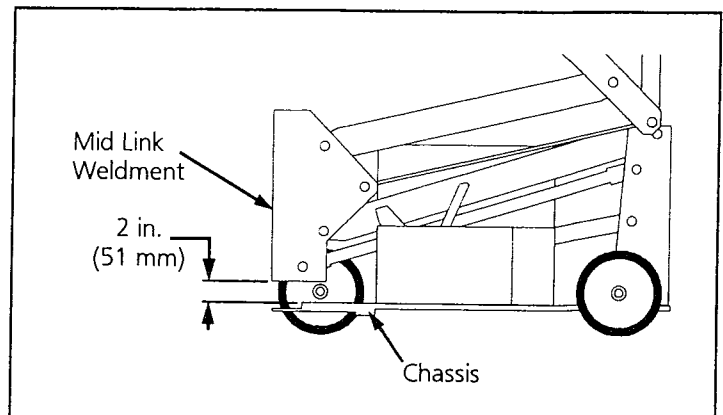

Figure 4-10: Down Switch Adjustment
1. Raise platform until Mid Link Weldment is 2 inches (51 mm) off of the Chassis (Figure 4-10).